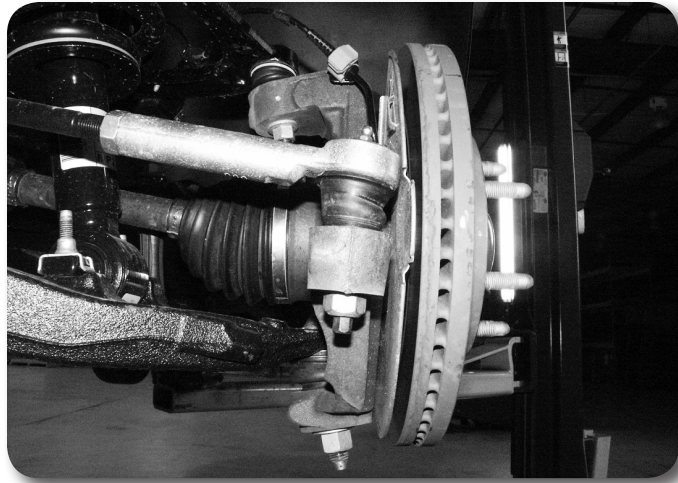

Figure 2
6. Remove the tie rod end nut and disconnect the steering from the knuckle **Figure 2**. Strike the knuckle near the tie rod end with a hammer to dislodge it. Save the mounting nut.